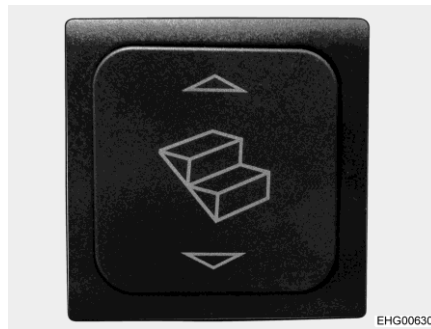

Fig. 3 Rocker switch for entrance step
- Extending:* ■ Press the rocker switch (Fig. 3) down until the entrance step has extended completely.
- Retracting:* ■ Press the rocker switch (Fig. 3) up until the entrance step has retracted completely.